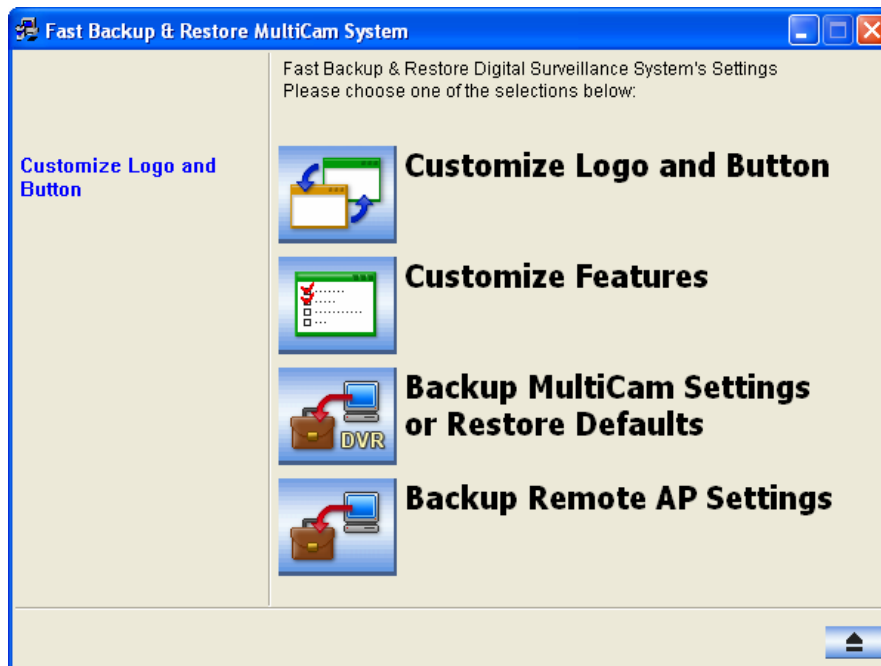

Figure 11-29
1. In the FBR window (Figure 11-29), click the **Customize Logo and Button** icon, select **DVR**, and then select **Custom Logo**. This window appears.
1. In the FBR Window (Figure 11-29), click the **Customize Features** icon to display this dialog box.
1. In the FBR window (Figure 11-29), click the **Backup System Settings** or **Restore Defaults** icon, and select **Backup Current System**. This dialog box appears.